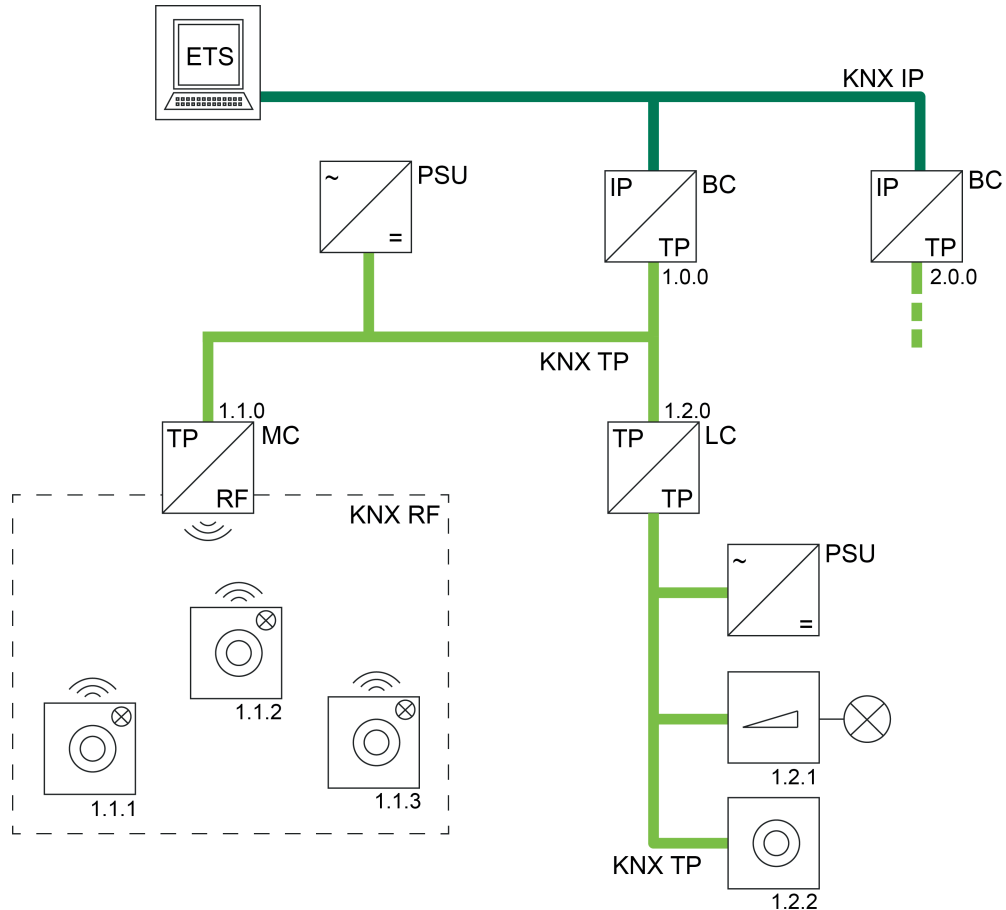

Figure 25: Example of a possible KNX topology with one KNX IP connection of the ETS (KNXnet/IP)
- Use of a KNX IP data interface (KNXnet/IP) (figure 25):